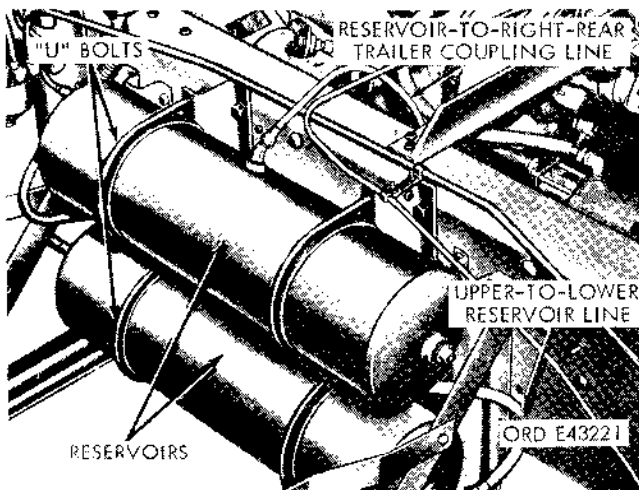

Figure 2-197. Air reservoirs installed to frame left side rail.
(1) Open the drain cock on the underside of the lower air reservoir (fig. 2-197) to relieve the pressure in the compressed air system.
(3) Unscrew the connector securing the air line tee (fig. 2-197) to the front end of the upper reservoir, and remove the tee from the reservoir.
(4) Unscrew the connector securing the upper-to-lower reservoir line (fig. 2-197) to the rear end of the lower reservoir, and remove the line from the reservoir.
(5) Unscrew the connector securing the upper-to-lower reservoir line to the underside of the upper reservoir, and remove the line from the reservoir.
(6) Unscrew the connector securing the reservoir-to-right-rear trailer coupling line (fig. 2-197) to the top of the upper reservoir, and remove the line from the reservoir.
(7) Support the lower reservoir, remove the two nuts from the front and rear U-bolts (fig. 2-197), remove the U-bolts from the reservoir mounting brackets, and remove the lower reservoir from the vehicle.
(8) Support the upper reservoir, remove the two nuts from the front and rear U-bolts (fig. 2-197), remove the U-bolts from the reservoir mounting brackets, and remove the reservoir from the vehicle.
(1) Position the upper reservoir (fig. 2-197) on the mounting bracket bolted to outside of the frame left side rail.
(2) Install the front and rear U-bolts over the reservoir with the ends inserted in the holes in the bracket, and install the two nuts on each U-bolt. Tighten the nuts.
(3) Install the lower reservoir (fig. 2-197), using same procedures as in (1) and (2).
(4) Position the reservoir-to-right-rear trailer coupling line (fig. 2-197) at the outlet on the top or upper reservoir, and tighten the connector.
(5) Position the upper-to-lower-reservoir line (fig. 2-197) at the inlet on the underside of the upper reservoir, and tighten the connector.
(6) Position the upper-to-lower-reserve line at the outlet on the rear end of the lower reservoir, and tighten the connector.